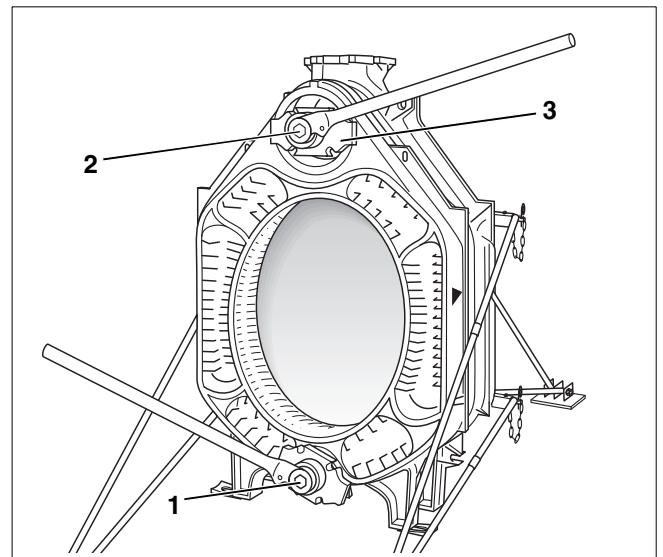

Fig. 16 Using boiler compression tool
Using a size 2.2 or 2.3 boiler compression tool (shown in Fig. 1 and Fig. 2 respectively and in Fig. 16, ref. 1 and 2).
- Slide the compression flanges (Fig. 16, **ref. 3**) onto the tie bars (Fig. 1 or Fig. 2, **ref. 4**).